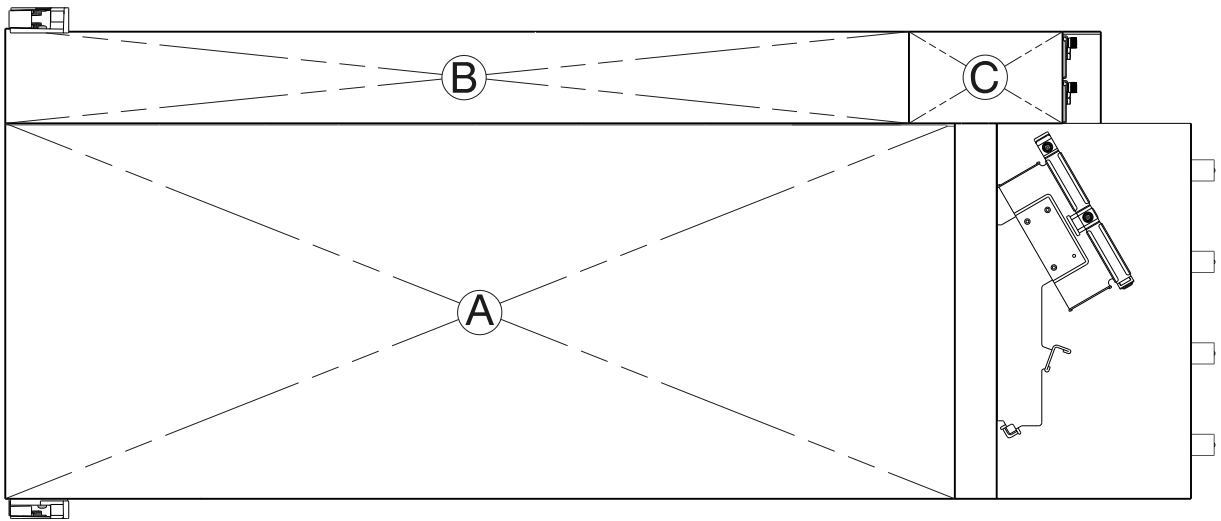

Figure 9 4U106 enclosure – top panel with covers installed
The enclosure top panel has two covers that can be removed for access to the internal components. The illustration shows three parts of the top panel labeled as A, B, and C. See Figure 9 for more details.
Figure 9 shows a top view of the enclosure with simplified covers. The illustration is oriented such that the front of the enclosure is on left, and the rear of the enclosure is on the right. The rail kit and most of the cable management arm geometry are omitted for clarity.
- The enclosure top panel provides access to 106 low profile 3.5" LFF or 2.5" SFF (with adapter) drives, held vertically. Out of these 106 drives, 96 drives are present below cover A (main bay cover), and 10 drives (and two controller channel fans) are present below the cover B (controller bay). See Figure 9 for more details. Each drive slot holds a plug-in drive carrier module. The top panel also provides access to the HS expander and controller fan FRUs.